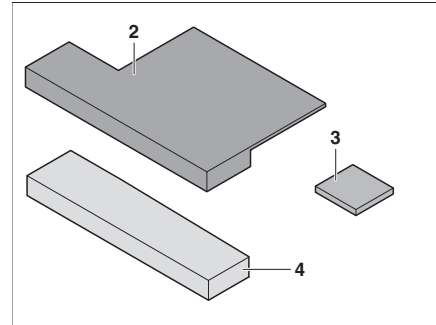

Fig. 181 Additional cushion
- Mount the seat wedge (Fig. 181,3) on additional cushion (Fig. 181,2) (with Velcro).